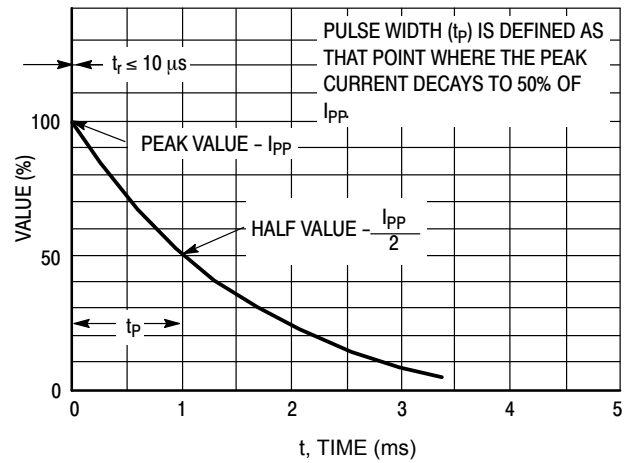
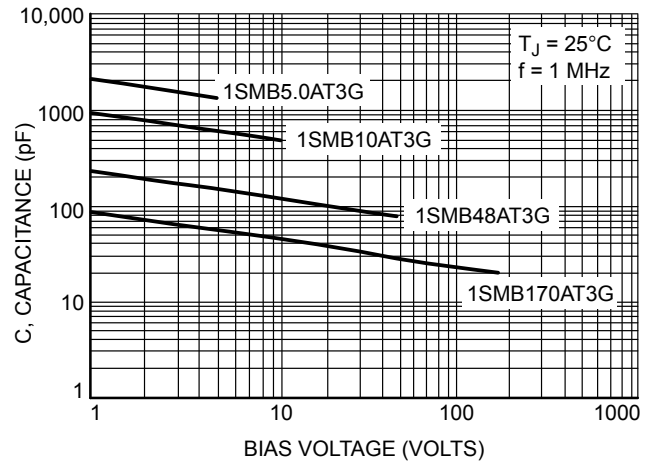

Figure 2. Pulse Waveform
Figure 4. Typical Junction Capacitance vs. Bias Voltage
8. Surge current waveform per Figure 2 and derate per Figure 4 of the General Data – 600 W at the beginning of this group.